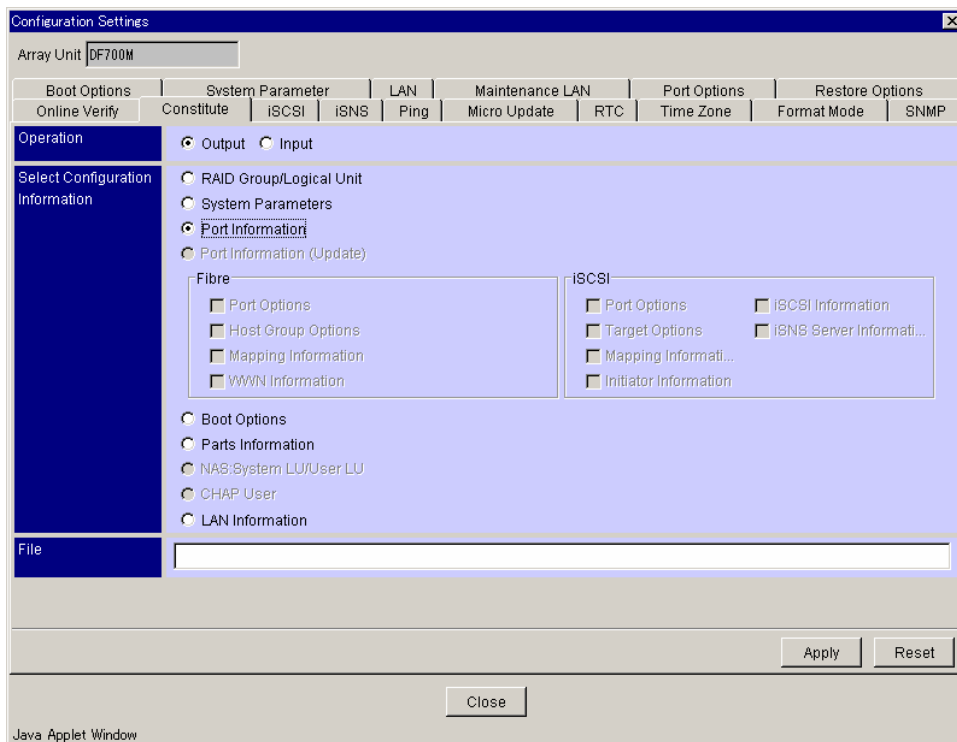

Figure 9.33 Configuration Settings - Port Information Panel (output)
2. Click the **Constitute** tab. See Figure 9.33.